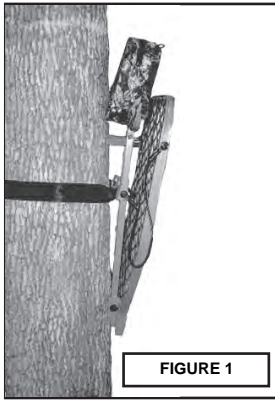
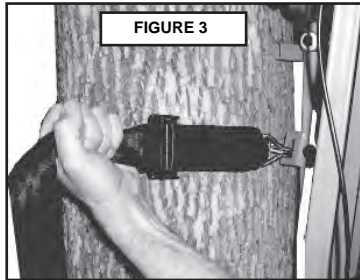

FIGURE 1
FIGURE 3
STEP 2: With the treestand in the folded position, wrap Tree Strap around the tree once and hook the other end into the tree strap bracket. (See Fig.1 and Fig. 2.) Ensure that the strap is not twisted and is laying flat against the tree.
STEP 3: Pull the excess strap to secure the stand to the tree, as shown in Fig. 3. The stand should be tight to the tree as shown in Fig. 1.